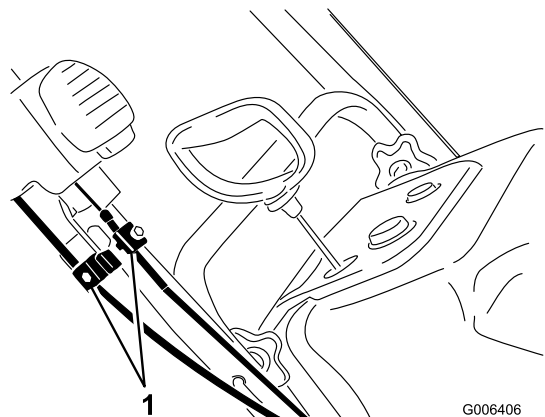

Figure 39
- Loosen the two Quick Shoot control cable clamps (Figure 39).